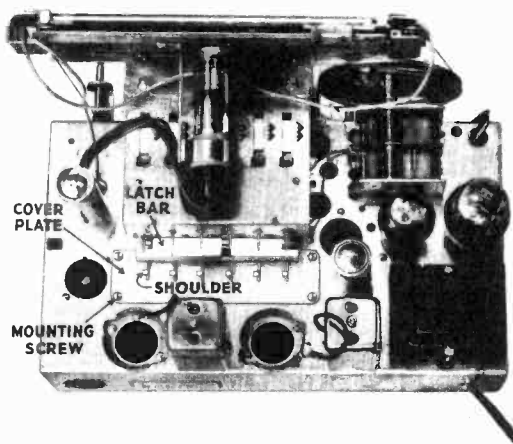

FIG. 2
3. Referring to Fig. 2, note that the following four tubes have been removed: